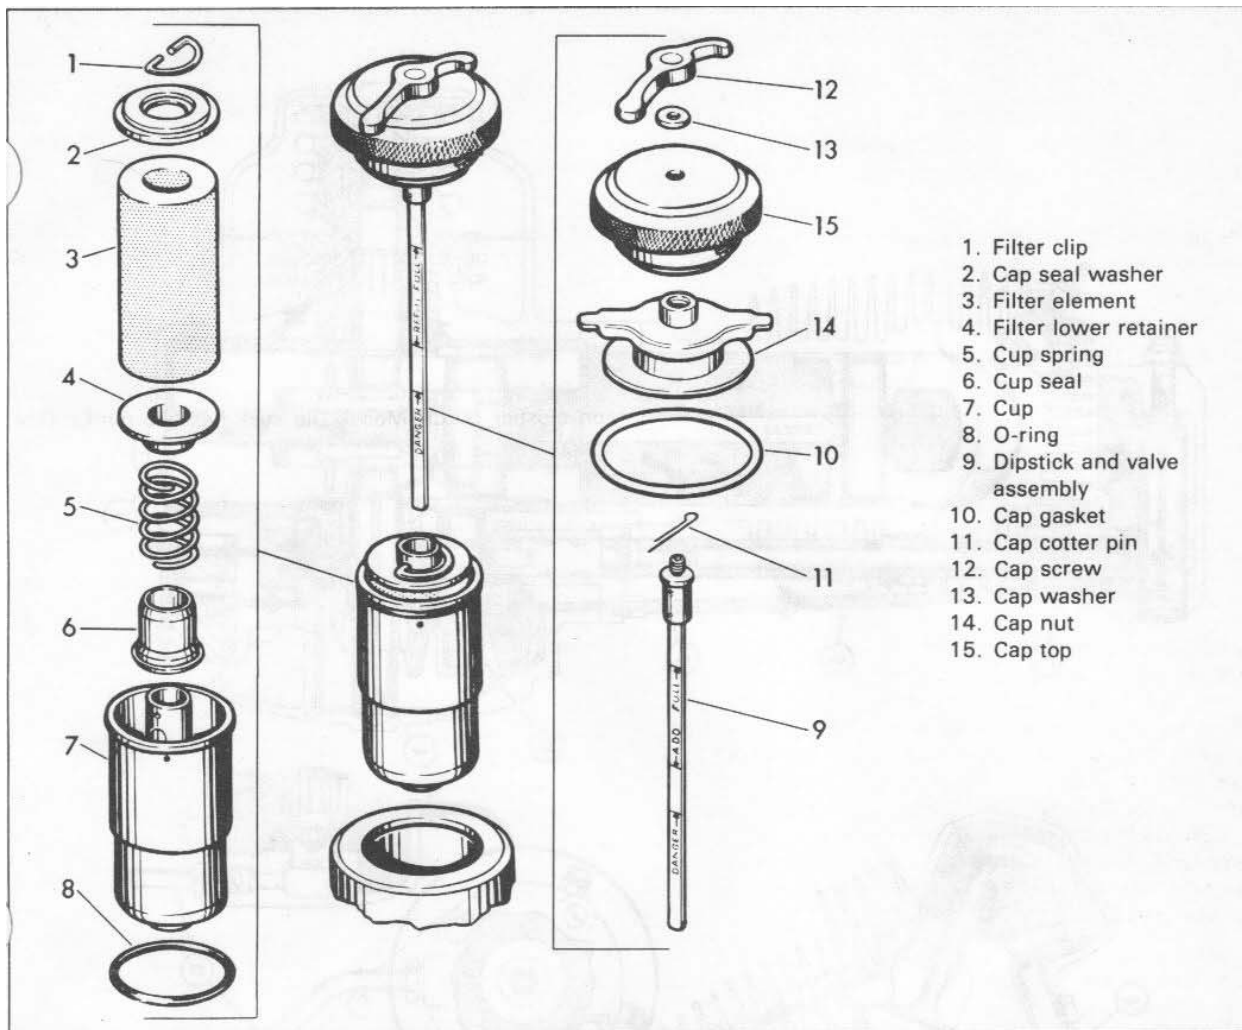

Figure 3-1. Oil Tank Filter - Exploded View
#### SERVICING OIL FILTER (Figure 3-1)
Thoroughly wash filter element (3) in clean solvent at least every 2000 miles or whenever engine oil is changed. Renew filter element every 5000 miles. To disassemble filter, follow order of disassembly under Figure 3-1. Assembly is essentially the reverse order of disassembly. Be sure O-ring (8) is positioned in filter cup (7) flange.
#### SERVICING OIL TANK CAP AND OPENING (Figure 3-1)
Clean and inspect all parts replacing any that are worn or damaged. Pay particular attention to the oil tank cap gasket (10) and the cap washer (13). To disassemble tank cap follow order of disassembly under Figure 3-1. Assembly is the reverse order of disassembly.